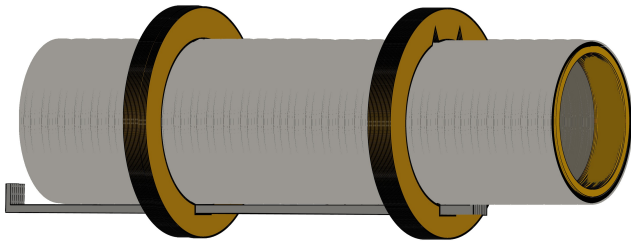

Figure 3
- **Step 5** Dry-assemble the two EM-78 engine mount kits as shown on the SEMROC instruction sheets. Use the ring with the two "V" notches as the forward ring of the sustainer mount. The flat notches slide over the engine hooks to prevent the motor tube from being offset from the centerline. See Fig. 3.